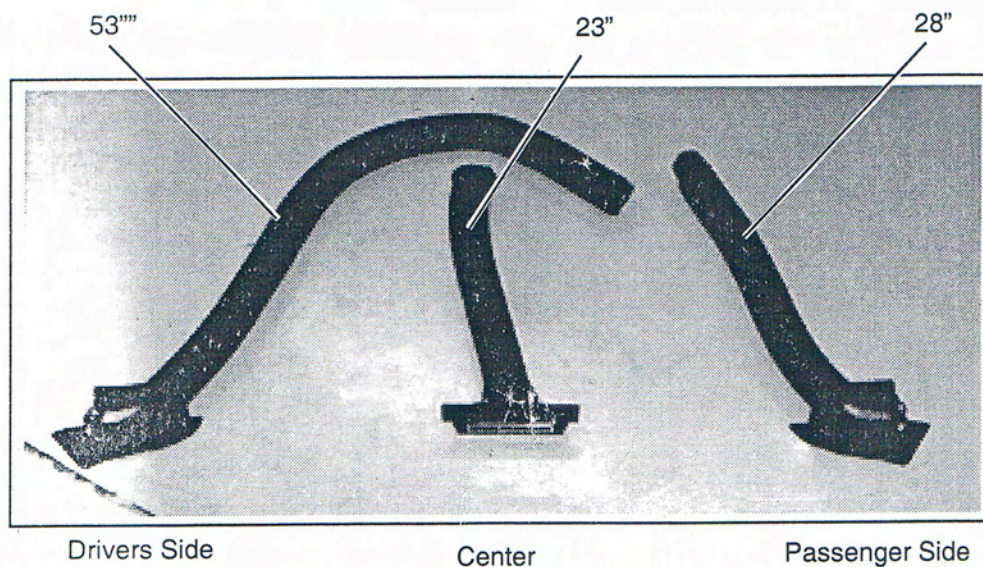

FIGURE 9
30. Obtain the side panel louvers and the center louver, secure the 2-1/2" flex hose to each louver and secure into position with hardware provided. **(FIGURE 9)**